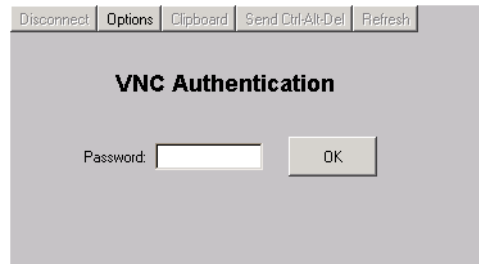

Figure E-2 VNC Authentication Screen
- c. After the server reboots, click *Login again*. The *VNC Authentication* screen displays (Figure E-2).